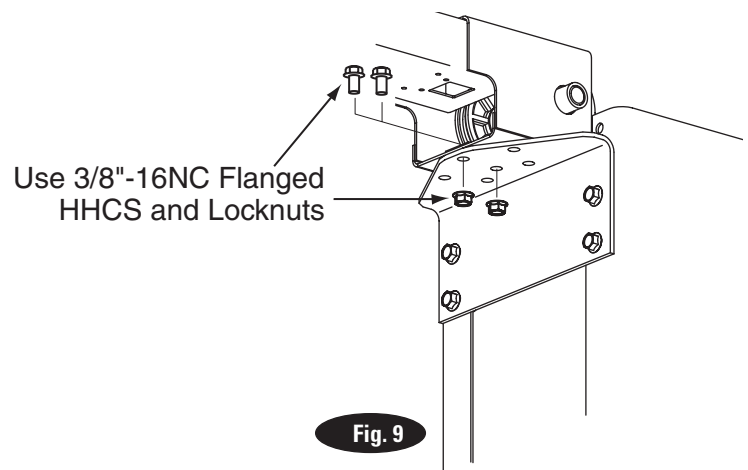

Fig. 9
9. Overhead Installation: Install overhead assembly to Mounting Bracket with (2) 3/8"-16NC x 3/4" Flanged HHCS, & (2) 3/8"-16NC Flanged Locknut, Fig. 9. Use outside holes (marked L for Left and R for Right) for SPOA82. Tighten bolts at center of overhead assembly.